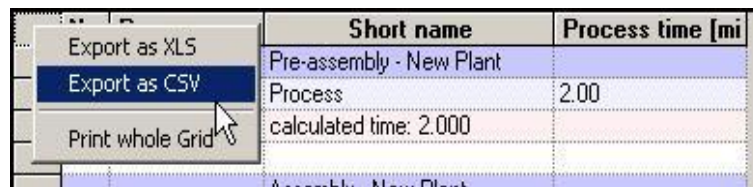

Figure 48: Opening a Context Menu – Exporting a Balancing List
- 2) Press right mouse button to open the context menu. *Please refer to the Figure 48.*